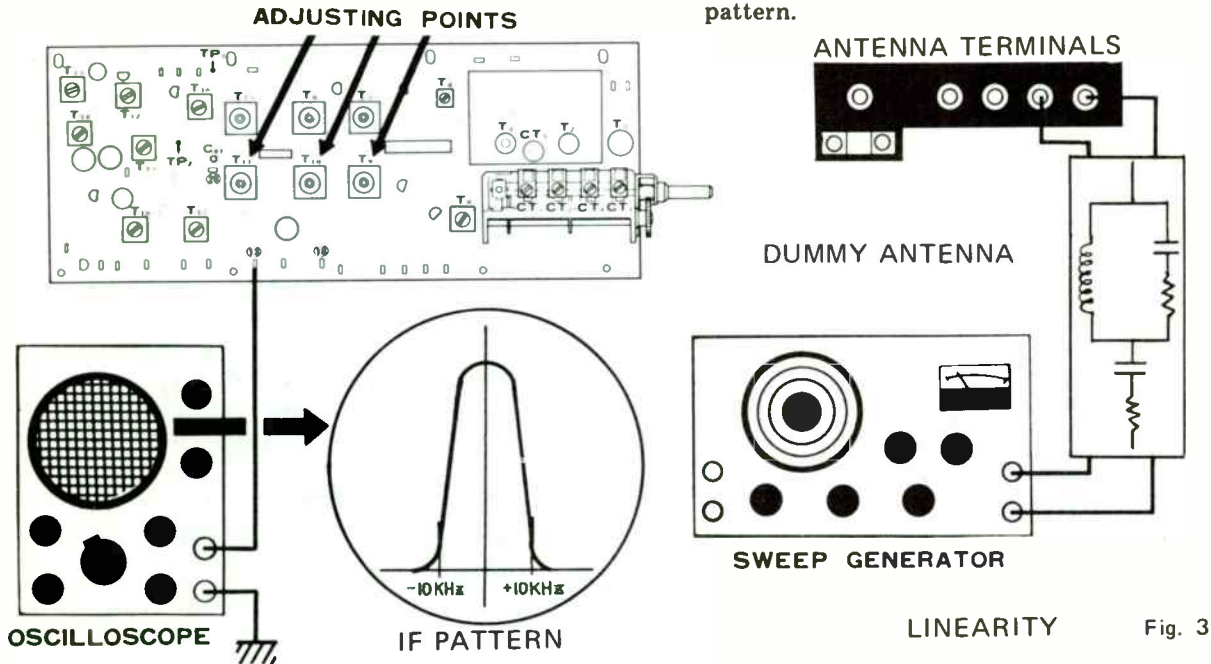

Fig. 3
- Connect the input leads of the oscilloscope to the AM detector output terminal ⑬.
- Adjust the AM IFT cores ( $T_9$ ,  $T_{10}$ ,  $T_{11}$ ) as shown in Fig. 3. Make the pattern symmetrical with respect to the center, coinciding with the peak of the pattern to the oscilloscope pattern.